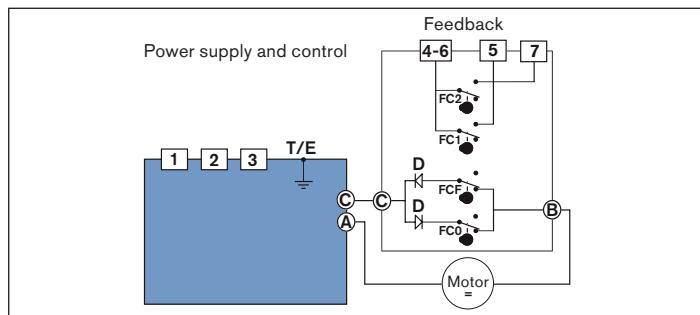

Fig. 16: Internal wiring of actuator
- Connect cable to the terminal strip (pos.12, "Fig. 1" and "Fig. 2") according to the schematic ("Fig. 16").